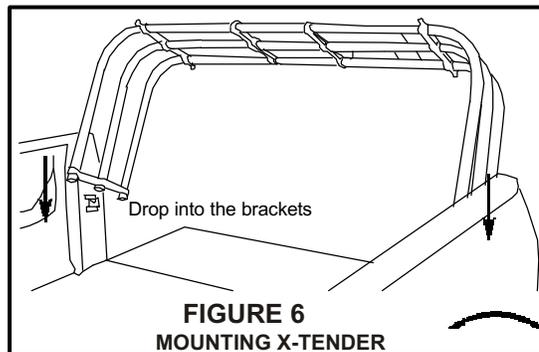

FIGURE 6
- STEP 7. Insert the upright bosses into the bed brackets. Note: X-Tender must be vertical to install. (See Figure 6)